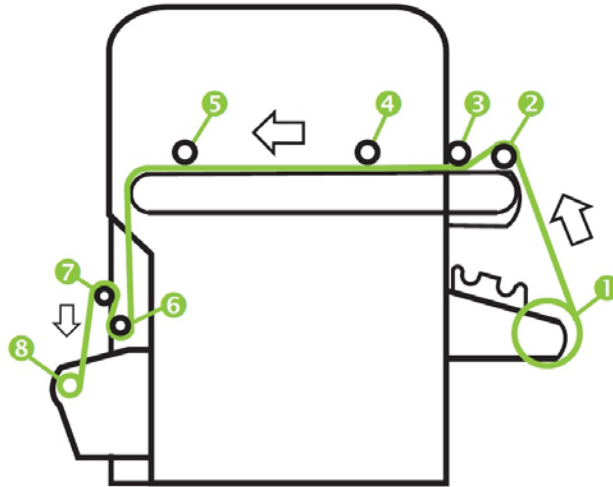

Fig. 4. Roll-to-Roll loading procedure sketch.
**2.** Pull the media from the roll, pull it over the foam lift roller and lay it on the belt to the input media roller (points 2 & 3 in Fig. 4.).
**Note:** Press **Help** for step-by-step instructions on how to attach the media to the takeup (points 4 to 8 Fig. 4).